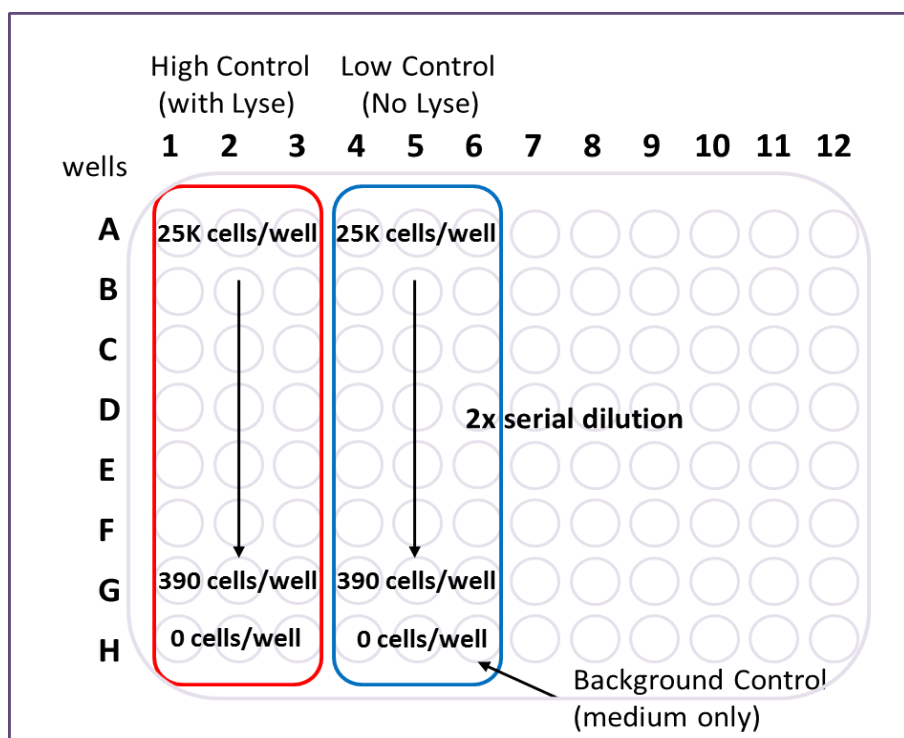

Figure 2. Assay Plate Layout
3) Add the cell suspension (5×10^5 cells/ml) to the top wells (row A) and mix by pipetting. Prepare 2-fold serial dilution in triplicates for the “high-control” (LDH released from lysed cells), “low control” (LDH from viable cells - no lyse) and “background control” (medium only) (Refer to Fig.2 for the plate arrangement).